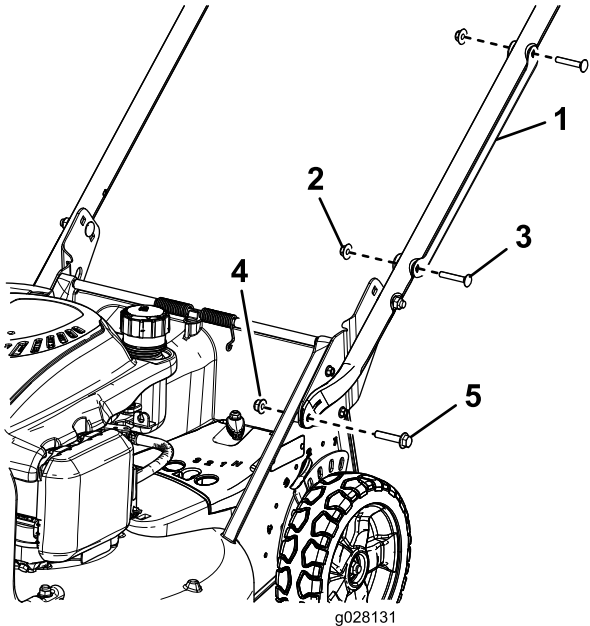

Figure 3
1. Remove the cable guard from the handle (Figure 3) by removing the 2 carriage bolts and 2 locknuts that hold the cable guard to the handle.
2. Install the handle ends onto the mower housing with 2 hex-head-flange bolts (5/16 x 1-1/2 inches) and 2 flange nuts (5/16 inch) as shown in Figure 3.
7. Position the cable guard onto the handle **with the cable(s) inside the guard**, and secure the guard to the handle with the 2 carriage bolts and the 2 locknuts that you previously removed (Figure 3).